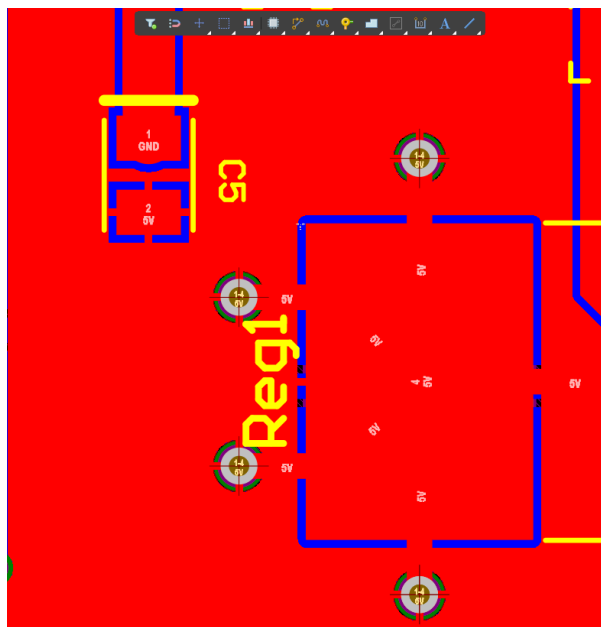

Figure 25. Move C5 to resolve violations
59. Move component C5 to the left so that it is no longer overlapping the violating pad of Reg1 as shown in Figure 25.
60. Altium start an automatic Re-route from Pad 1 of component C5 to the **GND** Pad that it was just connected to so that it looks similar to Figure 25. Feel free to first Shelf the Polygon.